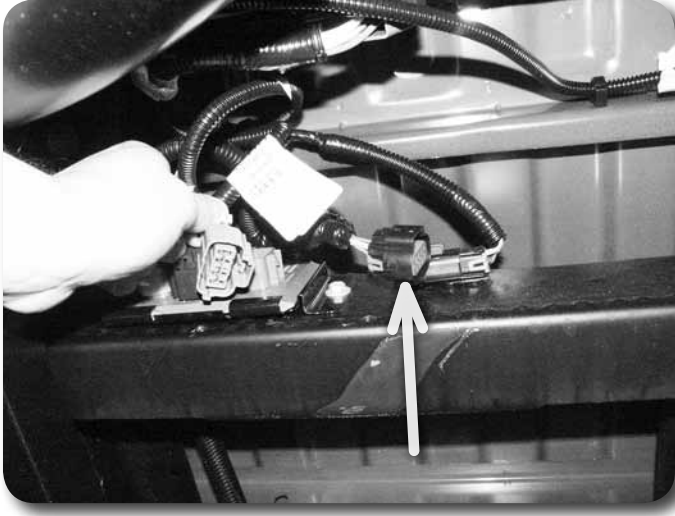

Figure 27
63. Torque all mounting hardware to 30 ft-lbs. **Figure 27**
2. Locate the rear wire connector cluster on the rear, driver's side frame cross-member **Figure 27**. Disconnect the license plate light harness and back-up sensor harness (if equipped).